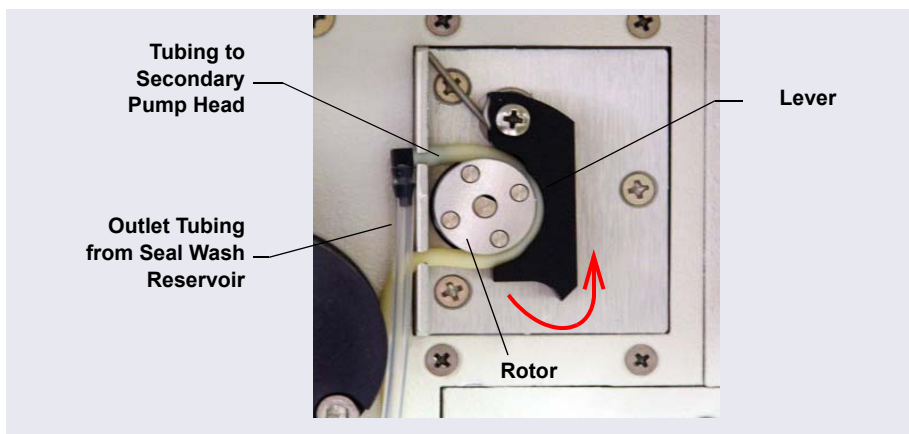

Figure 4-6. Peristaltic Pump
4. Check that the tubing is engaged in the peristaltic pump (see Figure 4-6). If it is not, lift the lever on the peristaltic pump up and to the right, insert the tubing neatly between the lever and the rotor, and release the lever to secure the tubing.